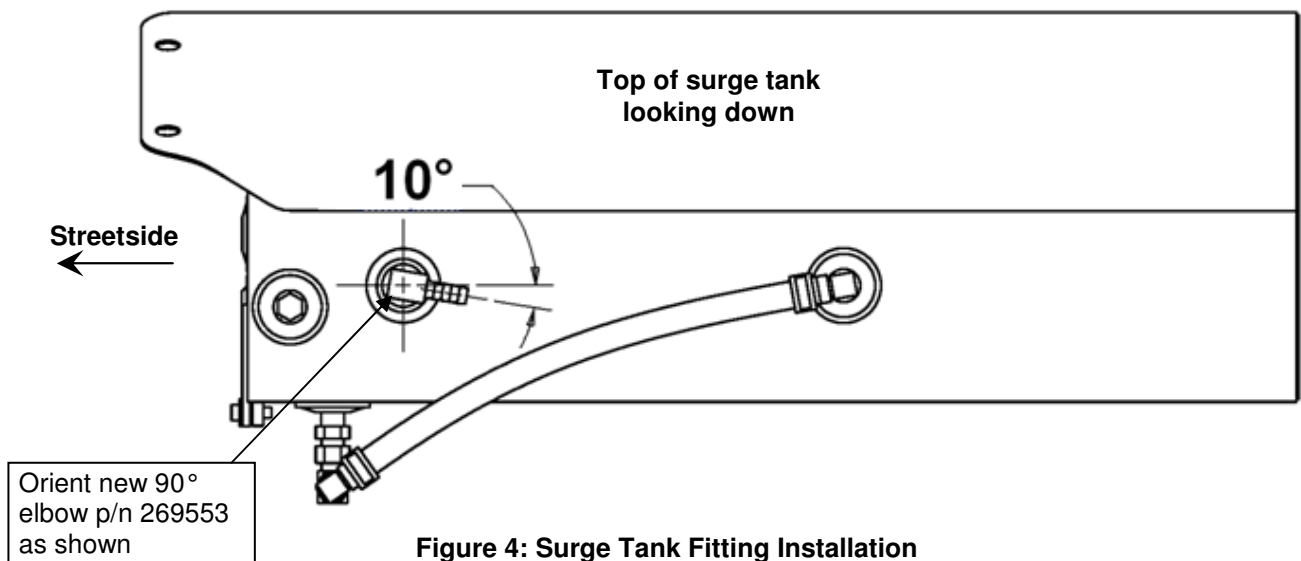

Figure 4: Surge Tank Fitting Installation
12. Install new 90° elbow (NF p/n 269553) as per Step 9, into the threaded surge tank port. Locate and orient as shown, See Figure 4.